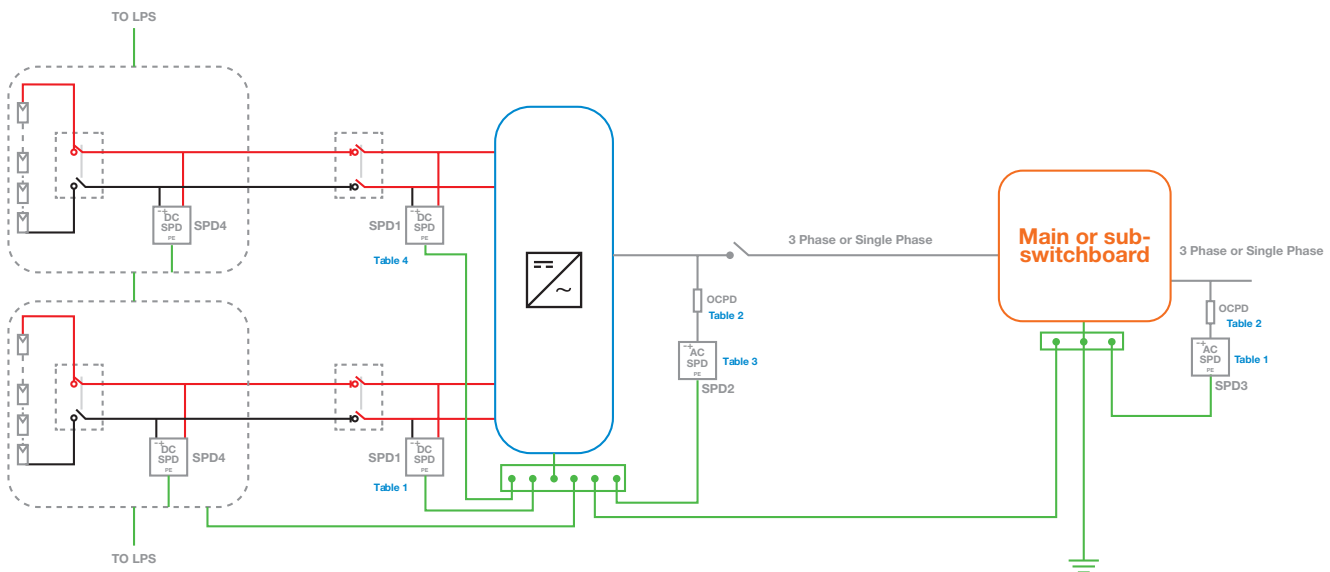

Figure 6. Electrical schematic for roof mounted panels with building LPS
6. The protective earths of the SPDs and the frame earth of the inverter shall be bonded together and in turn connected to the main earth bar via the main switchboard as in figure 6. 16mm² cable is suitable.
The following tables list the Novaris products that are most suitable for the applications as referenced in Figure 6.